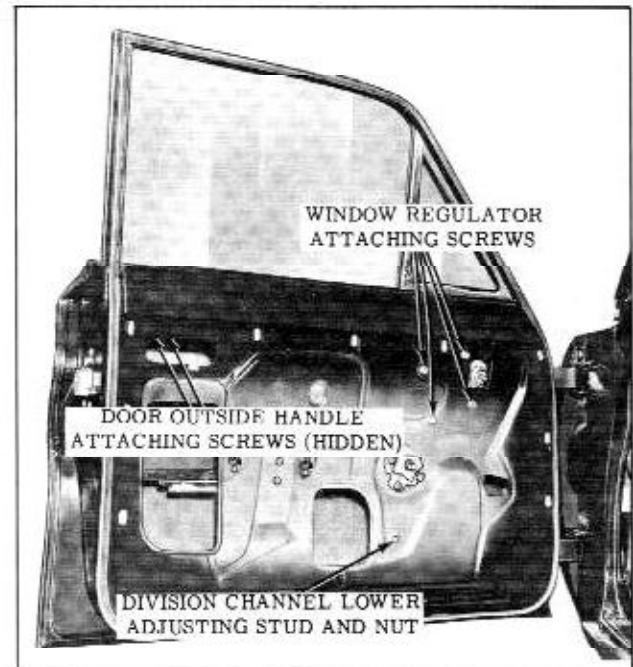

Fig. 15-32 Window Regulator and Outside Handle Attachment
4. Remove window regulator attaching screws then work window regulator rearward to disengage arm from window lower sash channel cam and remove regulator from door. (Fig. 15-32)
- Raise door window. Remove door trim assembly and detach upper rear corner of inner panel water deflector sufficiently to gain access to door outside handle attaching screws. (Fig. 15-32)